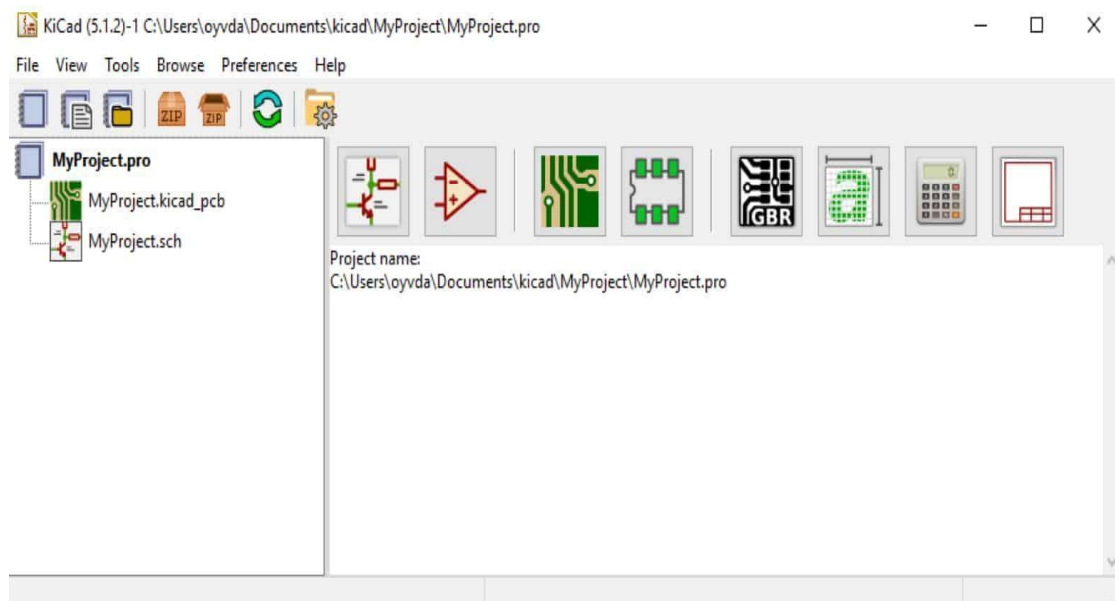

Figure 12.3 The main KiCad window
- When you open up KiCad, you will see the window shown in Figure 12.3. From here, you can open or create new projects.